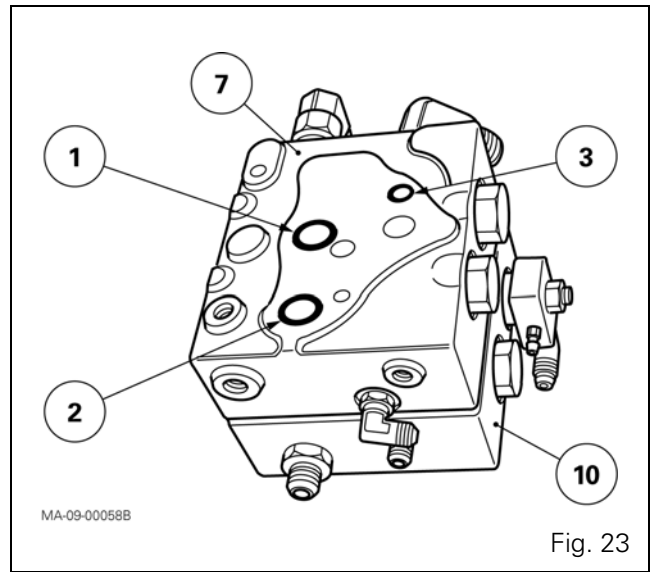
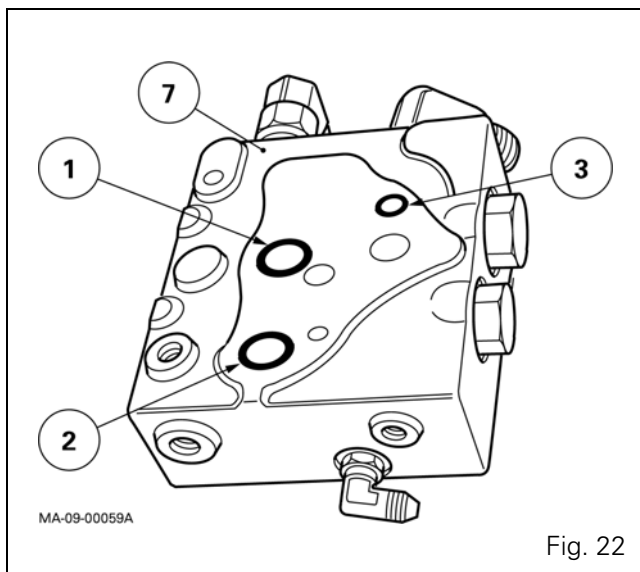

Fig. 23
Fig. 22
27. Replace the "O" rings (1) to (3) for the single priority block (7) (tractors without trailer braking) (Fig. 22) or for the hydraulic unit with two priority blocks [(7) and (10)] (tractors with trailer braking) (Fig. 23).
28. Refit the single priority block or the hydraulic unit with two priority blocks (7) or [(7) and (10)].